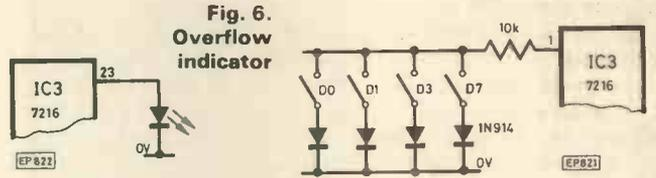

Fig. 6. Overflow indicator
- 4) If an l.e.d. is connected between pin 23 and ground, it acts as an overflow indicator (see Fig. 6).